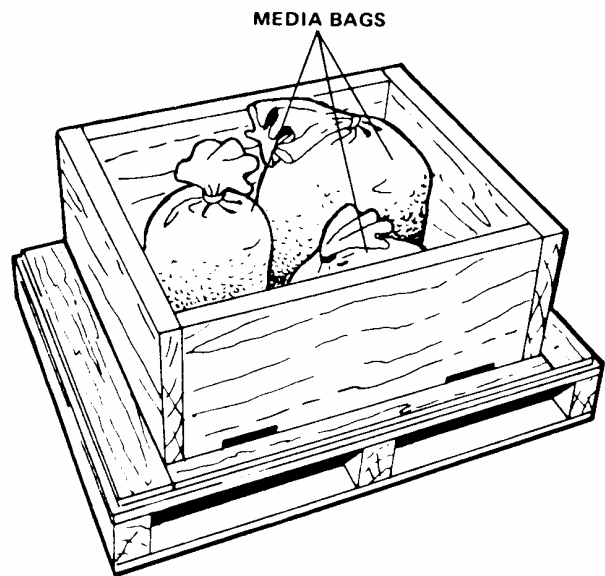

Figure 2-2. Location of Media Bags (Models BB2016 and BB1224)
**MODELS BB2016 and BB1224.** Remove media bags stowed inside skid. (See fig. 2-2.)